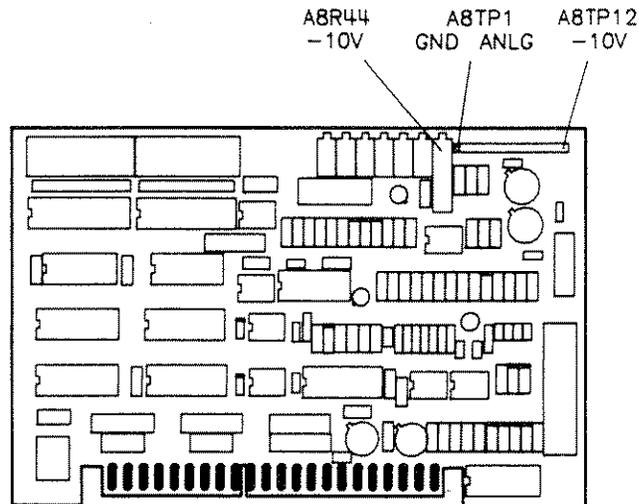

Figure 5-1. -10V Reference Adjustment Location
2. Adjust A8R44 (-10V) for a DVM reading of -10 ± 0.001 V dc. See figure 5-1 for -10 volt reference adjustment location.